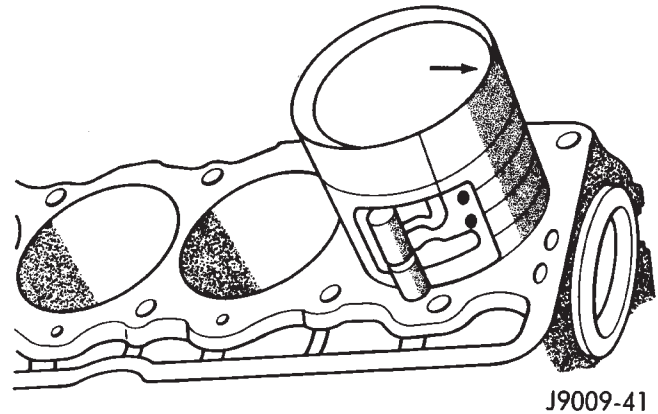

Fig. 18 Rod and Piston Assembly Installation
(3) Lubricate the upper bearing insert and install in connecting rod.
(4) Use piston ring compressor to install the rod and piston assemblies. The oil squirt holes in the rods must face the camshaft. The arrow on the piston crown should point to the front of the engine (Fig. 18). Verify that the oil squirt holes in the rods face the camshaft and that the arrows on the pistons face the front of the engine.